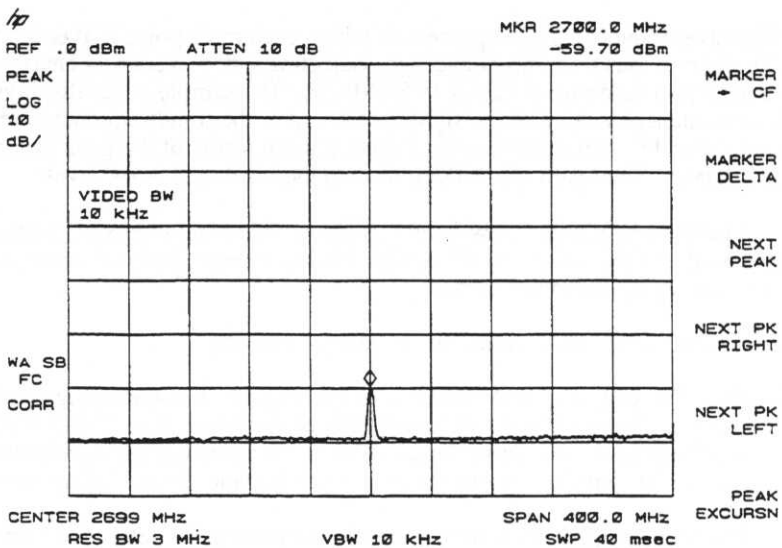

Figure 2-11
2. Press **PEAK SEARCH**. See Figure 2-11. Move the marker and read the amplitude and frequency of the signal.